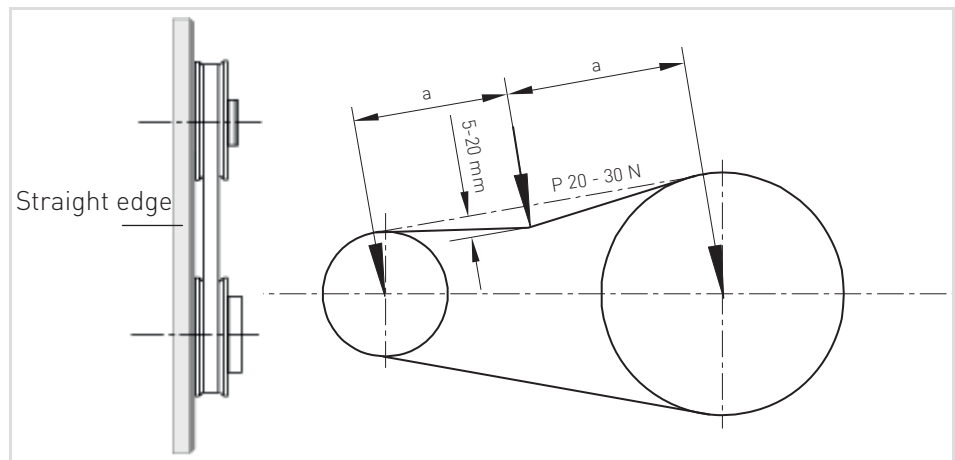

Figure 8-1: Pulley alignment and V-belt tensioning
- Check/adjust pulley alignment (Fig. 8-1).
- Tension V-belt (adjust using measuring device, if possible, calculate using frequency method (Fig. 8-1)).
The deflection of the belt is approximately 5-20 mm when a load of $P = 20-30 \text{ N}$ is applied, depending on the distance between the axes (see Fig. 8-1).